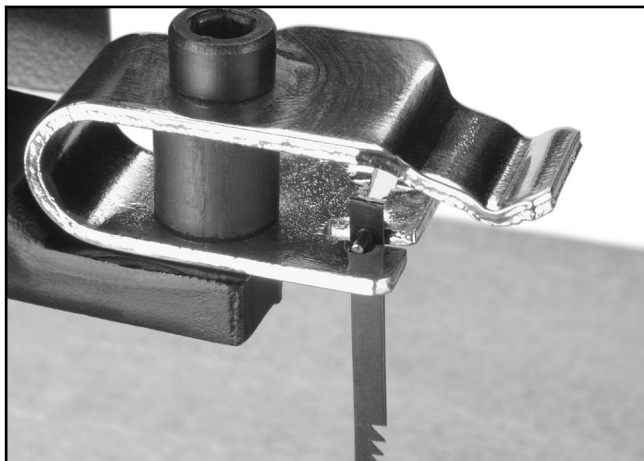

Figure 9. Upper blade holder.
4. Push down on the upper blade holder shown in **Figure 9**, pull the upper end of blade out of the holder, push down on the blade to free the lower end of the blade, and pull the blade up to remove.